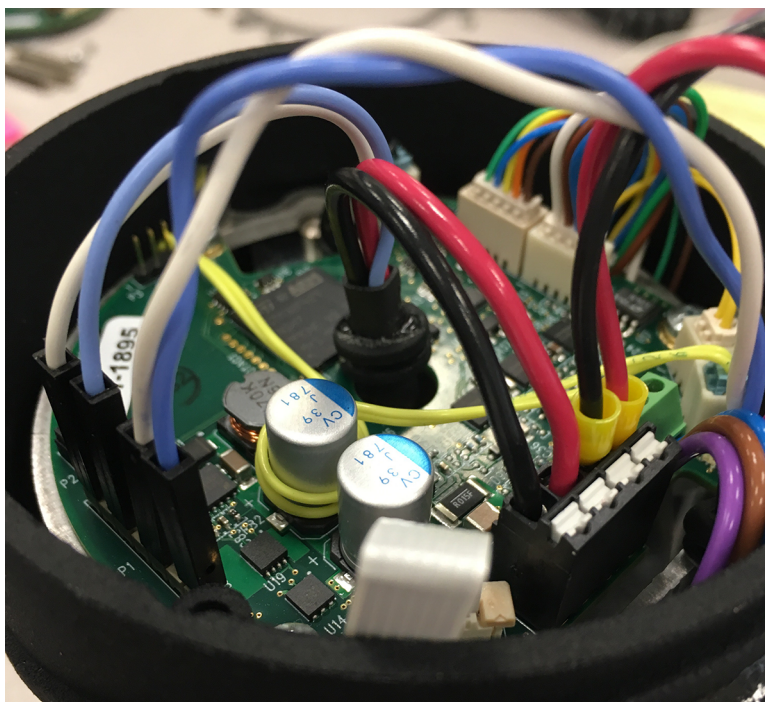

Figure 11: Power and CANopen connections
4. Insert the red and black power wires with ferrules into the vertical poke-in connector shown in **Figure 11**. Note polarity on the PCB silkscreen, insert red into the “+” position and black into the “-” position. For best results, be sure the smooth side of the crimped ferrule is facing the white spring side of the connector slot when pushing it in. See Board Layout (→ p. 34) for a diagram of the PCB.
6. Plug the CANopen (blue and white twisted pair) into connector P1 on the drive PCB as shown in **Figure 11**. Be sure the connectors fully seat on the post pins. PCB silkscreen note positions for W (white - CAN high) and B (blue - CAN low).